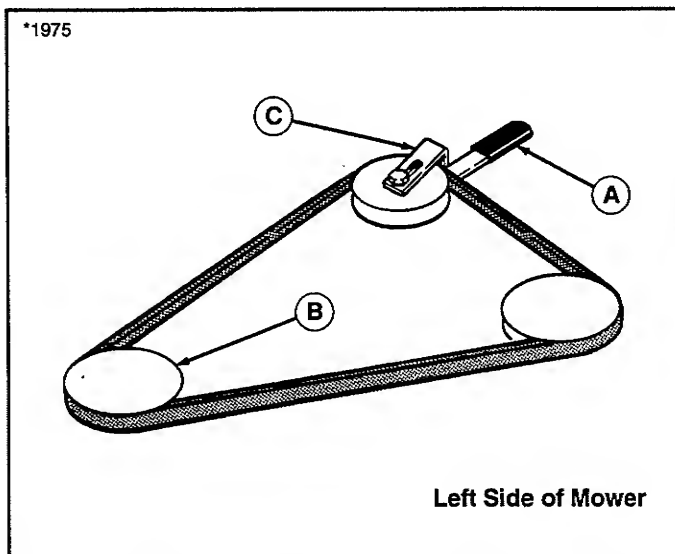

Figure 37. Mower Belt Routing - 44" Mower Deck
3. Push the idler arm (A, figure 37) away from you to relieve belt tension. Drop belt from the PTO (electric clutch) pulley.
6. Position the bracket belt stop (C, figure 37) up against arm (A) so that there is a 1/8" gap between pulley and belt stop.